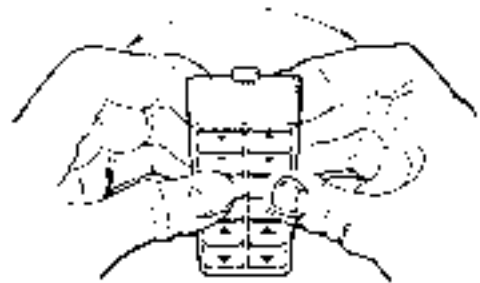

Fig. 14 Key Module Disassembly
2. Grasp the key module with both hands, with the buttons facing you. See **Fig. 14**.